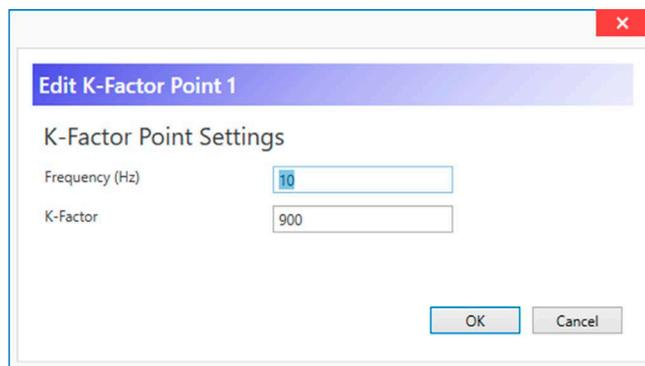

Figure 7.8—Edit K-Factor Point dialog
- Edit Point. Presents a dialog for changing the selected K-factor point (Figure 7.8, page 67).